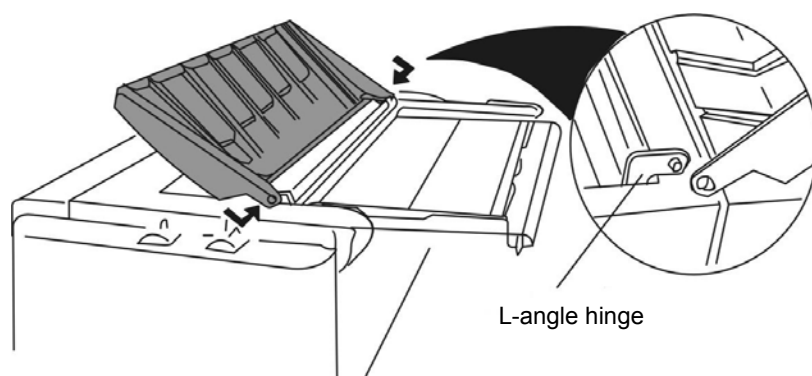

Figure 2-6 Installing the sound seal cover
- Press the L-angle hinge on the other side inwards gently, plug the other sound seal cover hole into the tab, and then loosen it. (As Figure 2-6 shown)